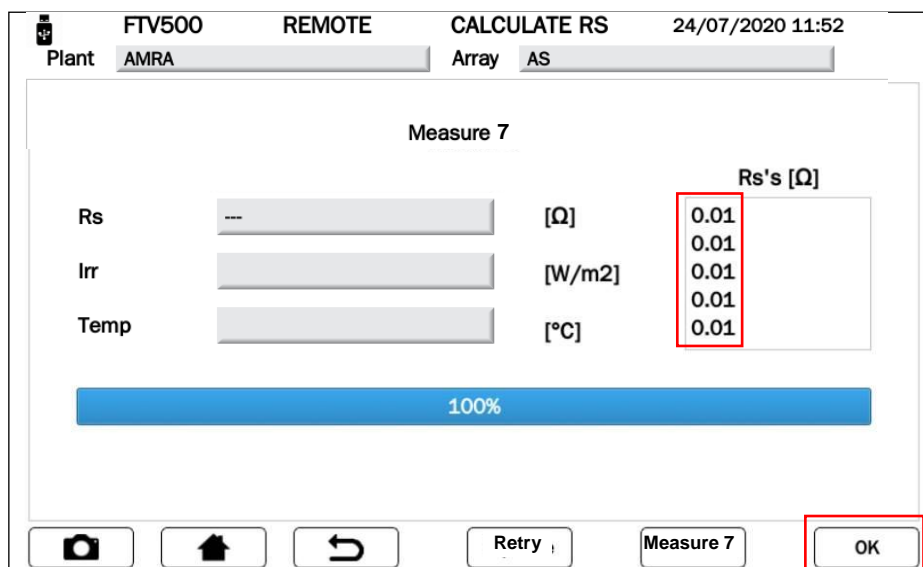

Figure 14.7.3-19 RS Measurement "x"
- **NOTE:** starting from Measure 2, and only if the result is displayed in "Ω" in the "Rs's" box, will the OK key be activated (see Figure 14.7.3-19), which if pressed will automatically perform the "Curve" test IV "